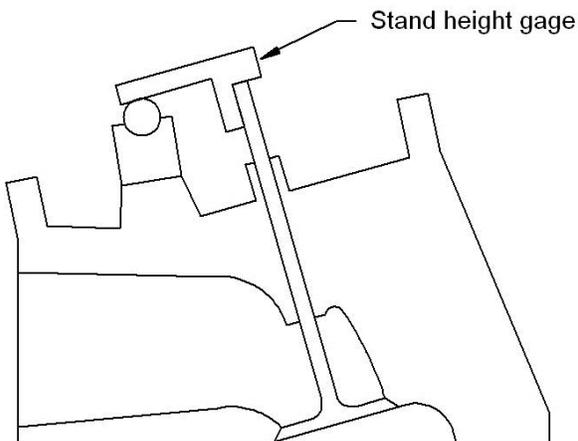

Figure 1
- d. Place the supplied Stand Height Gage on the valve stem, as shown in figure 1. The gage should contact the top of the valve and the rocker shaft, as shown in figure 1.